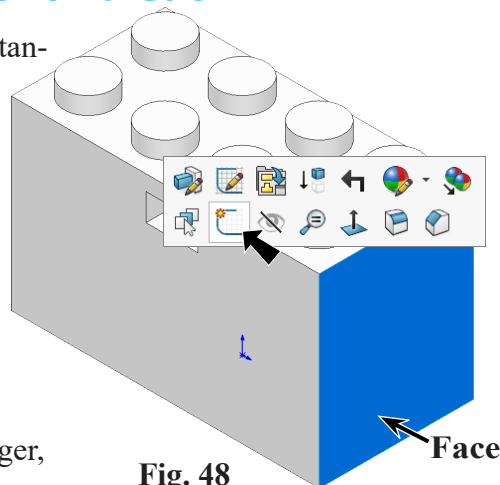

Fig. 48
Step 2. Click the **right side face** and click **Sketch**  on the context toolbar, Fig. 48.